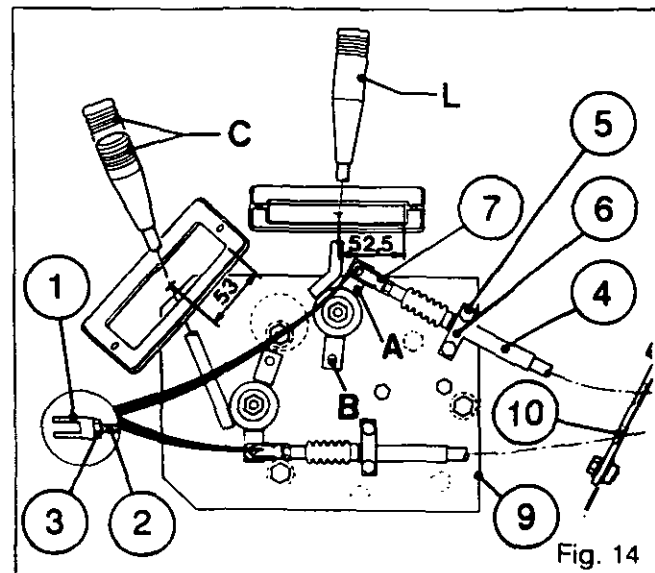

Fig. 14
**F. Fitting and adjusting the auxiliary spool valve cable - New bracket****On lever (Fig. 14)**
50. Put the control cable through the grommet-plate (10) at the rear of the cab.
51. Fit and tighten cable clamp (6) on bracket (9) on the console.
**Note: The attachment of clevis (1) to lever L differs, depending on the type of spool valve.**
**Depending on the attachment required on lever L, fix clamp (6) for cable housing end (4) in the correct position.**
52. Screw clevis (1) level with the edge of the threaded part of cable (2) and fit it to lever L with clip (7). Tighten nut (3).
53. Check that the spool valve spool is in neutral position. Screw clevis (1) level with the edge of the threaded part of cable (2). Tighten nut (3). Fit pin (4) in clevis (1).
54. Partially screw clevis housing (5) and fit screws (6) but do not tighten.
55. Screw clevis housing (5) down so as to position lever L as shown in figure 14. Lock screws (6) and tighten nut (7) to torque 20 Nm.